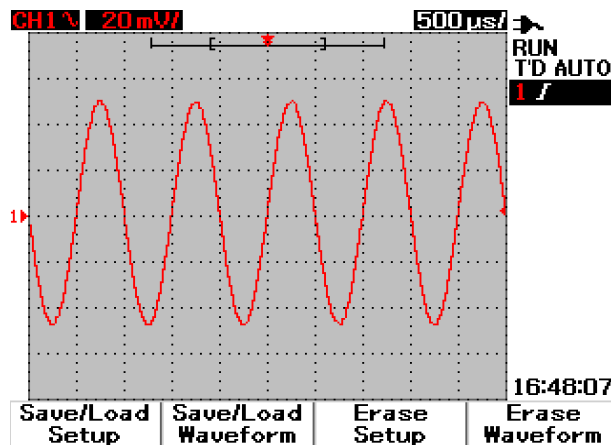

Figure 3-39 Save/Recall menu
- 4 In Figure 3-39, press F1 to save the configuration setup into Setup 1.